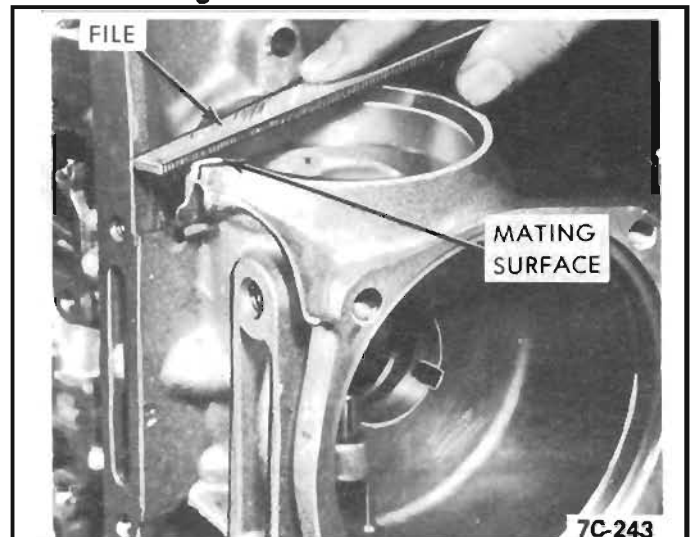

Figure 116 Removing Excess Material From Governor Surface
4. Clean off excess stock from the governor O-ring seal to case mating surface. *See Figure 116.*